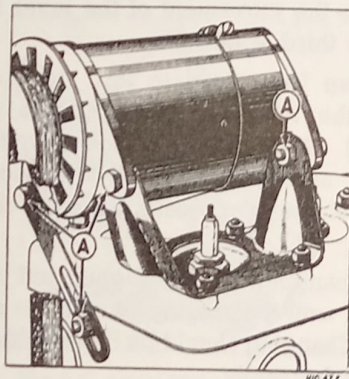

Fig. 3. The bolts "A" are for dynamo and fan belt adjustment.
The belt should be just sufficiently tight to prevent slip, yet it should be possible to move the belt laterally about one inch each way. To make the adjustment, slacken the bolts (A) indicated in Fig. 3, which hold the dynamo in position, and raise or lower the dynamo until the desired tension of the belt is obtained. Then securely lock the dynamo in position again.